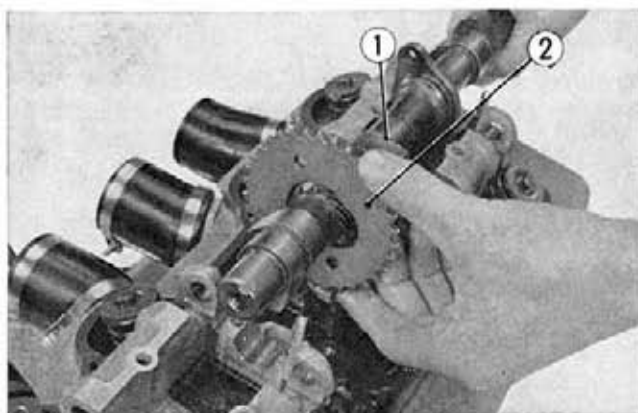

Fig. 3-26 ① Camshaft
6. Remove the cam chain from the cam sprocket and then pull out the camshaft from the camshaft holder at the left side. (Fig. 3-26).